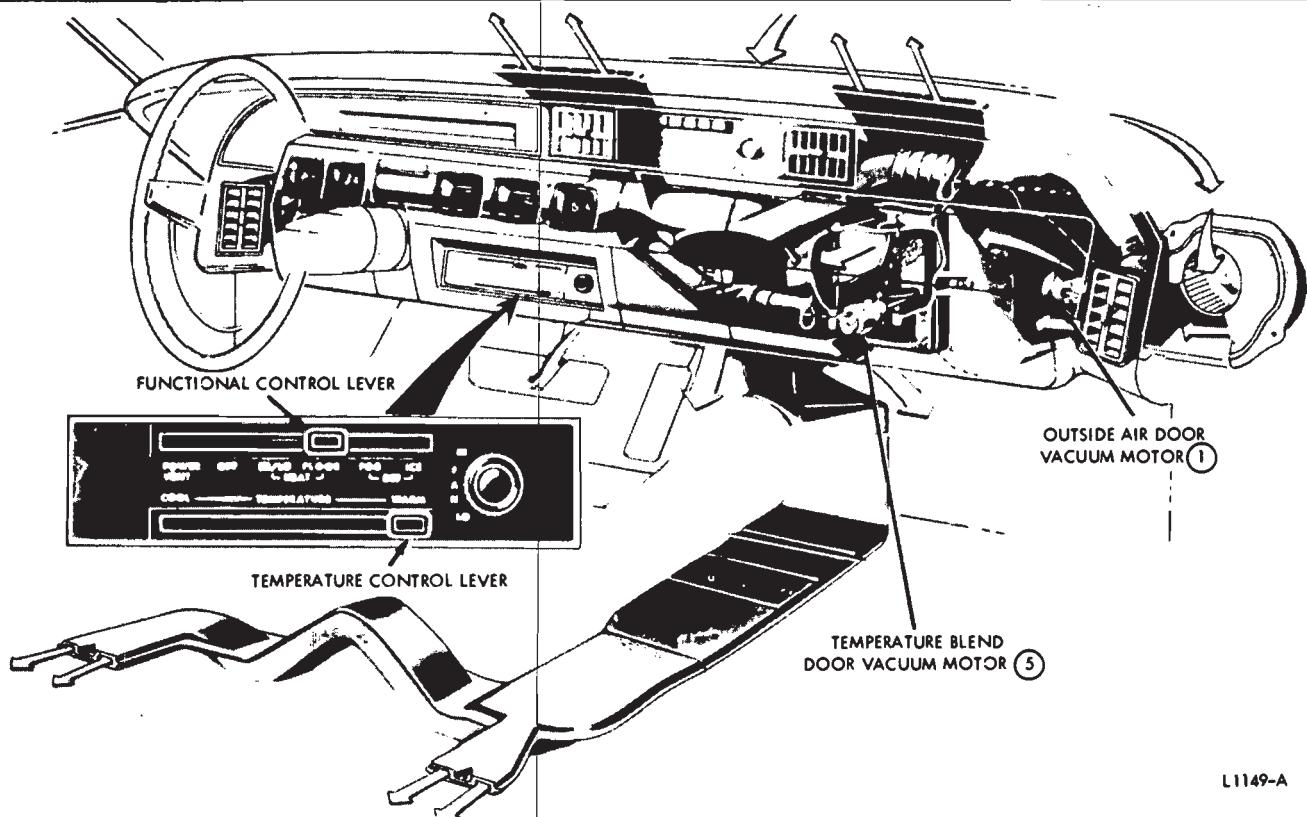

FIG. 8—Standard Heater System Air Flow (Maximum Heat Position)—Lincoln Continental
the lower instrument cluster to the right of the steering column (Fig. 8).
The temperature control lever (lower lever, Fig. 8) actuates a vacuum regulator on the control assembly that modulates vacuum to the Tem-
2. The Heater Water Valve and vacuum motor assembly (4) is located immediately outside the heater case in the heater inlet hose. The inlet hose is 5/8 inch I.D., the outlet hose is 3/4 inch I.D. (Fig. 8).
The air distribution duct (Fig. 8), part of the plenum chamber, distributes air to the front floor and a rear seat heat duct leading from the distribution duct distributes air to the right and left rear floor areas.
The right and left defroster nozzles (Fig. 8) are connected to air outlets on the plenum chamber with rigid air ducts.
Air to the four registers in the instrument panel (Fig. 8) is delivered from the plenum directly to the two center registers through the center air distribution duct and to the right and left outboard registers through semi-rigid ducts connected to openings in the center duct.
The rear seat heat duct (Fig. 8)